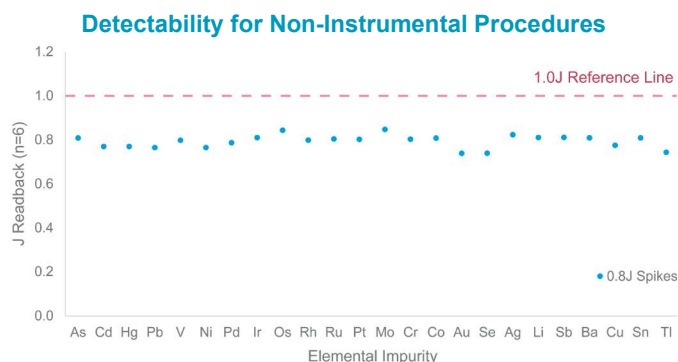

Figure 5. Detectability determined on 0.8J and 1J spiked samples.
- 样品值 < 0.8J加标样品值 < 1J加标样品值 (Figure 5)
- 1J加标的值在1J标准加标值±15%范围内(Figure 5)